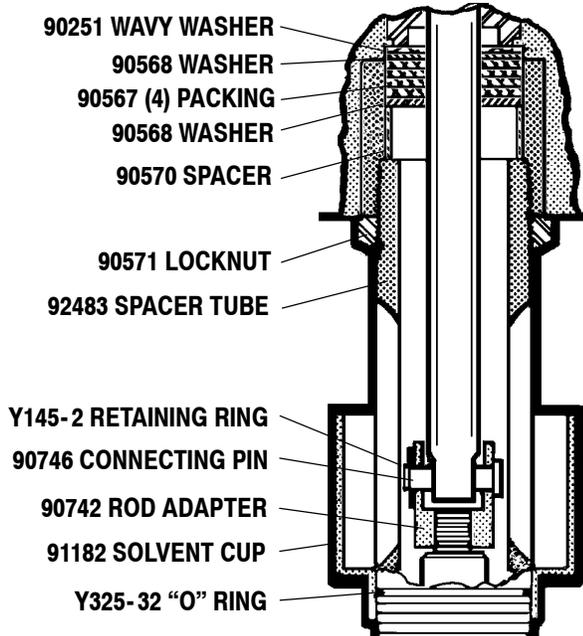

FIGURE 2
2. Unscrew 90571 Lock Nut. (See Figure 2)